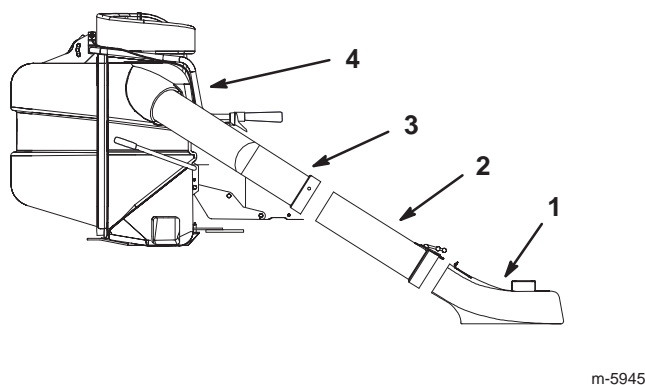

Figure 16
3. Install the upper tube into the collector (Fig. 16).
10. Install the tube assembly into the collector (Fig. 16).
5. Unlatch the tube assembly from the boot (Fig. 16).
6. Remove the tube assembly from the collector (Fig. 16).